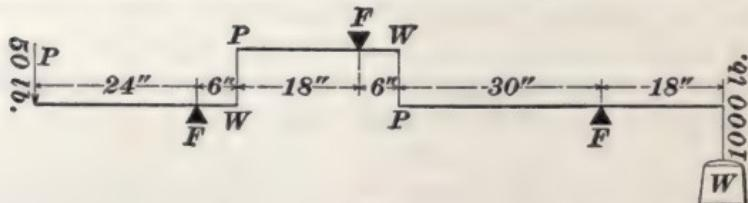

FIG. 8.
Fig. 8 shows a compound lever. It will be seen that when a force is applied to the first lever at  $P$  it will be communicated to the second lever at  $P$ , from this to the third lever at  $P$ , and thus raise the weight  $W$ .
**EXAMPLE.**—If, in Fig. 8,  $PF = 24$  inches, 18 inches, and 30 inches, respectively, and  $WF = 6$  inches, 6 inches, and 18 inches, respectively, how great a force at  $P$  will it require to raise 1,000 pounds at  $W$ ? What is the ratio between  $W$  and  $P$ ?
2. If, in Fig. 8,  $P F = 10$  inches, 12 inches, 14 inches, and 16 inches, respectively, and  $WF = 2$  inches, 3 inches, 4 inches, and 5 inches, respectively, (a) how great a weight can a force of 20 pounds raise? (b) What is the ratio between  $W$  and  $P$ ? (c) If  $P$  moves 4 inches, how far will  $W$  move?